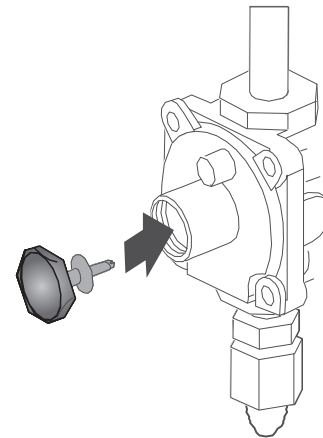

Figure 15
- 6** Screw the regulator cap back into the regulator and re-attach it to the nipple and flare union as shown. DO NOT over-tighten. (See Figures 15 and 16)
- 1** When the range is converted for Liquid Petroleum (LP) Gas, the LP gas supply is required to provide a minimum of 10" to a maximum of 14" water column to the range regulator. Following LP Gas Conversion, complete Steps 2 to 14: "Adjusting the Regulator Pressure"; "Changing Burner Nozzles"; "Adjusting Burner Flames"; and "Testing Flame Stability".